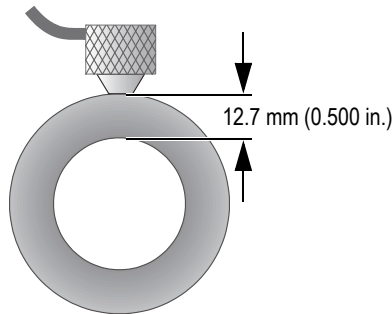

Figure 5-11 Coupling a dual element transducer
- Using moderate to firm pressure, couple the tip of the transducer to the surface of the test material, and keep the transducer as flat as possible on the material surface (see Figure 5-11 on page 66).